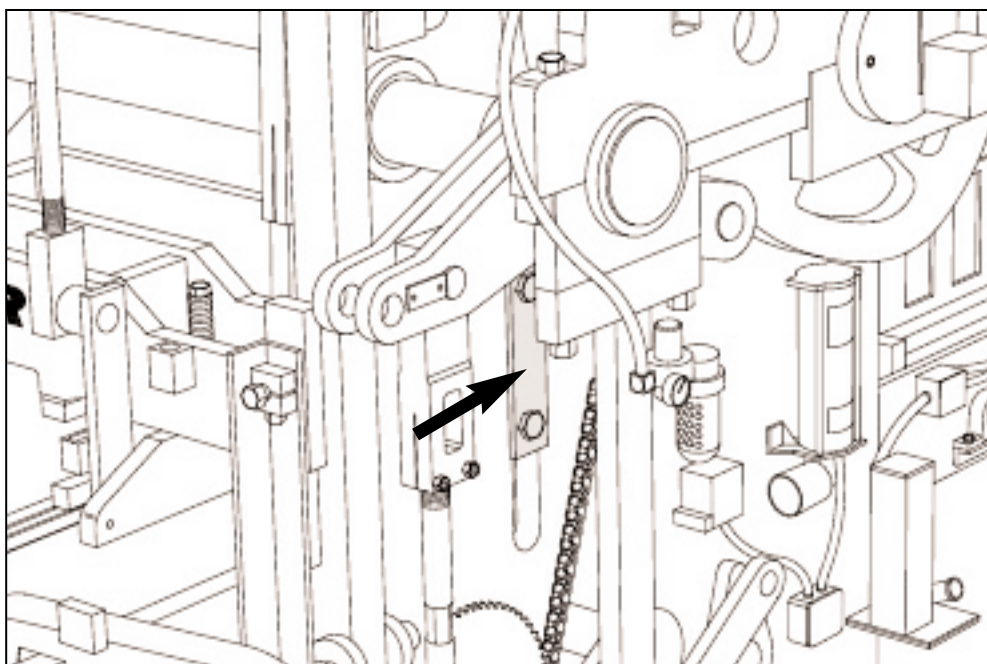

Figure 4.36 LOOSEN "T" CLAMPS ON BOTH SIDES.
- a. Loosen the "T" clamps on each side of machine that secures machine side plate to mold throat plate (figure 4.36).